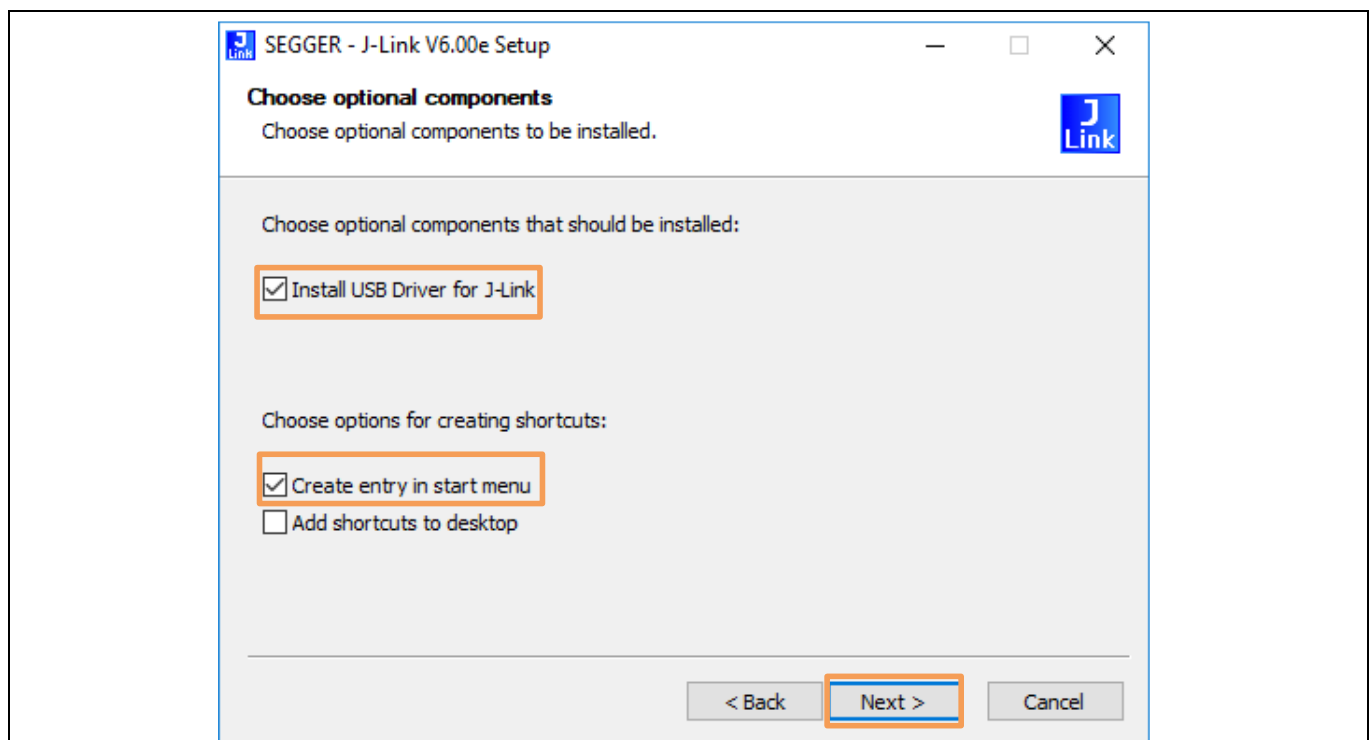

Figure 29 SEGGER JLINK Drivers – USB Driver Installation
- Select the check boxes as shown in the highlighted orange color box of Figure 29 and click **“Next”** button to continue with the installation.